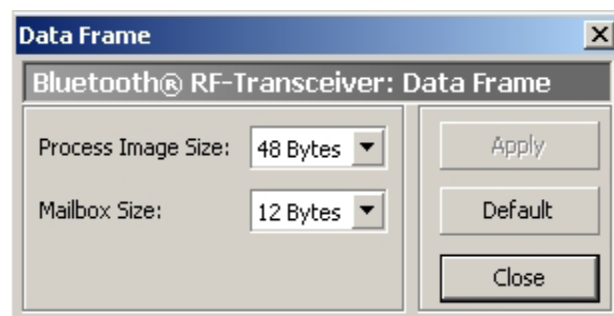

Figure 47: Data structure
- Enter (if not already set) a process image size of 48 bytes and a mailbox size of 12 bytes (see Figure 47).